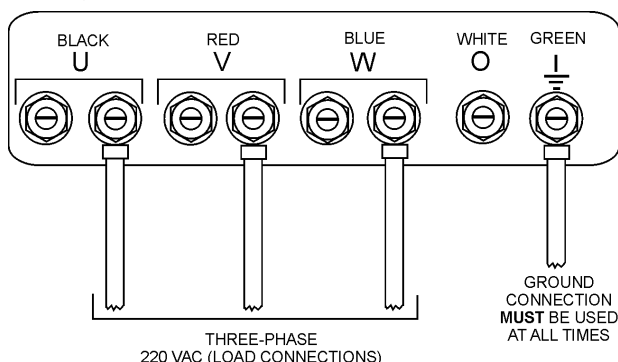

Figure 22. UVWO Terminal Lugs 3Ø-220V Connections
2. Connect the load wires to the UVWO terminals as shown in Figure 22.